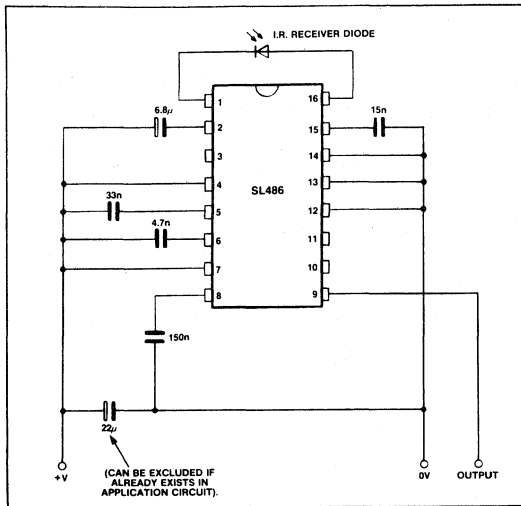

Fig.3 Circuit diagram of minimum component application (showing low voltage operation)
The width of the pulse is determined by the value of this coupling capacitor (C8 in Figure 3) and is given by:
**Regulator Input (Pin 12)** The device can be operated with supplies of between 4.5V and 9.0V connected between input/output ground (pins 14 and 13) and input and output Vcc (pins 4 and 7) as shown in Figure 3.
## OPERATING NOTES - REFER TO FIGURES 3 AND 4
**Gyrator C1 (Pin 3)** If the environment in which the device is operating, limits the background light such that the DC component of the diode current has a maximum of 200µA, it may be desirable to omit (see Figure 3) the more bulky and costly 68µF capacitor, gyrator C1 shown in Figure 4. In this case pin 3 can be left open circuit. The resultant application will then have a characteristic of greatly reduced gain when the ambient light causes the DC current to rise above this threshold.